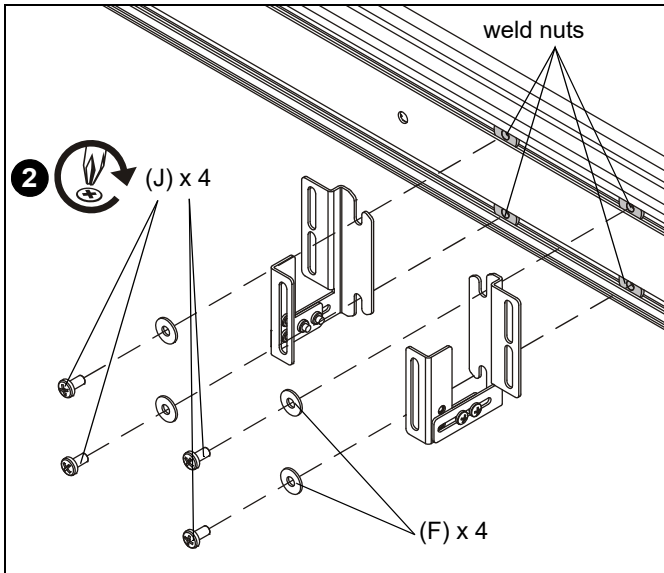

Figure 4
- Attach configured brackets to weld nuts using four 1/4-20 x 1/2" Phillips pan head screw (J) and four 1/4" flat washers (F) into installed weld nuts (E). (See Figure 4)